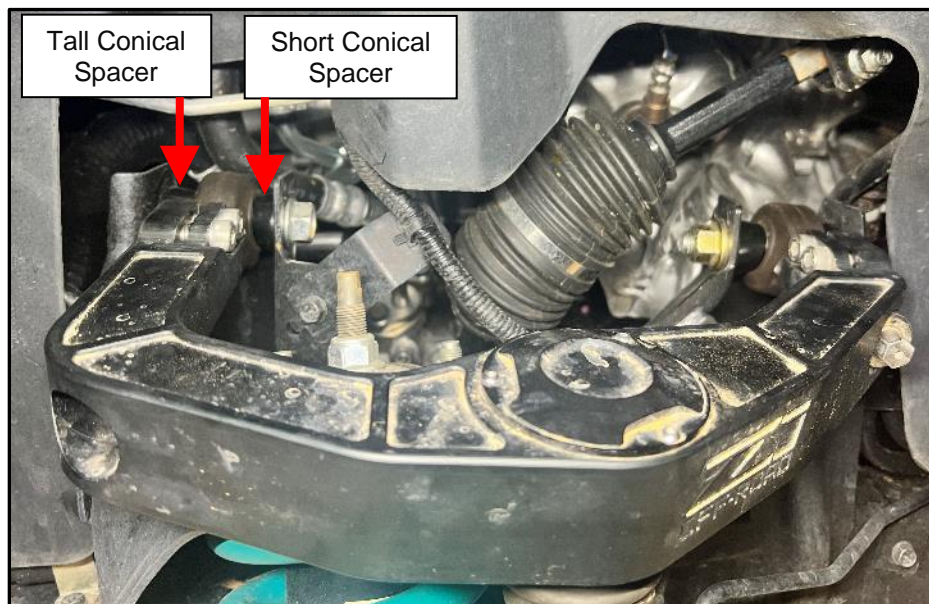

Figure 8
21. Reinstall the Ball Joint Dust Cover and the (3) three M3 Button Head Screws.
22. Starting on either side of the vehicle, position the Arm onto the vehicle with a Conical Spacer on each side of each Heim Joint. *Figure 8.*
NOTE: There are (2) two different sized Conical Spacers that can be positioned in (2) two configurations depending on your choosing. If you want maximum clearance (between the arm and strut mount/spring bucket) position the Short Conical Spacer towards the front (opposite of *Figure 8*). If you want increased caster angle, position the taller of the (2) two Conical Spacers towards the front of the vehicle (as shown above). If you choose the increased caster angle with the large spacer in front, you may experience contact between the arm and strut mount/spring bucket at full droop. This will vary depending on suspension modifications.